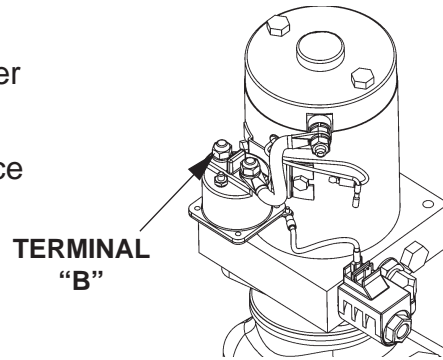

FIG. 78-1
1. Use voltmeter to verify that power is being supplied to Solenoid Terminal "B". Recharge the battery if voltmeter indicates less than 12.6 Volts (**FIG. 78-1**).